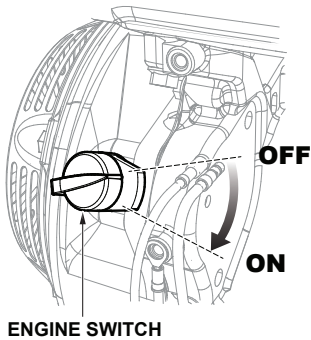

Figure 14. Engine On/Off Switch (ON)
- Place the engine ON/OFF switch (Figure 14) in the **ON** position.